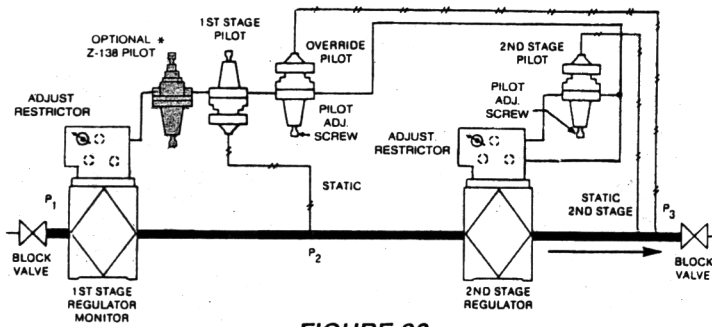

FIGURE 20
- * 2. For increased inlet pressure applications a type Z-138 pilot can be added between the manifold and 1st stage pilot as shown by the grey pilot shown in Fig. 20.